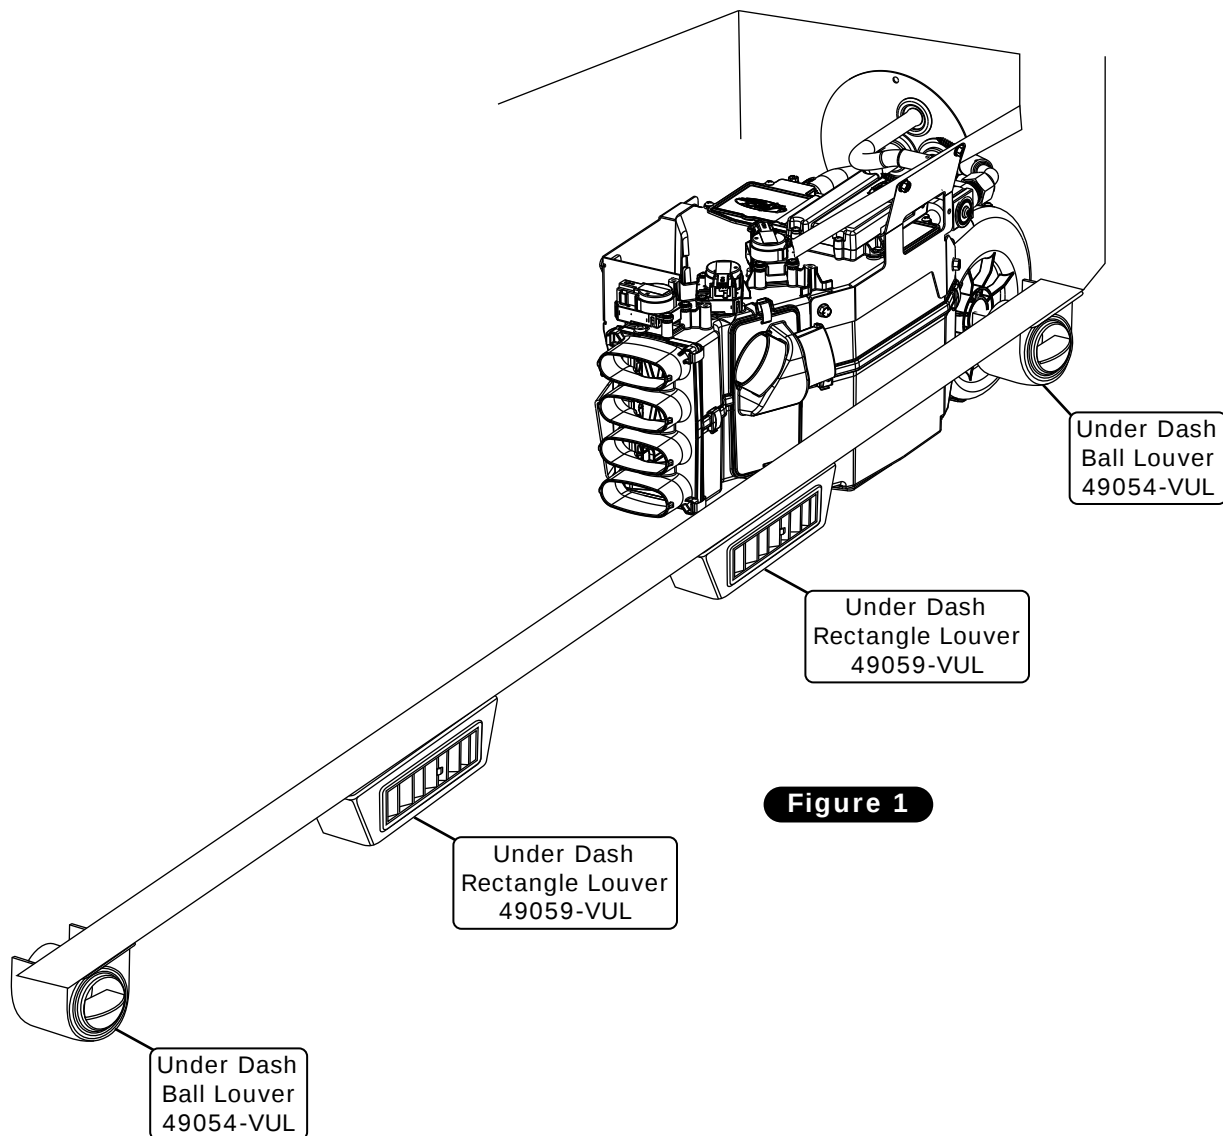

Figure 1
1. Install louvers under the dash using (8) #8 x 1/2" pan head screws (See Figure 1, below).
1. Install the duct hoses as shown in Figure 1, Page 17.